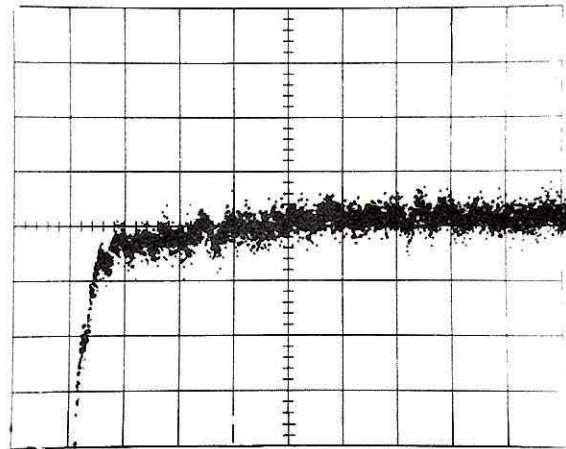

Fig. 7-11. Response to 284 Step Signal at 2% per division.
f. Being careful not to move the CH 1 VOLTS/DIV red CAL control, change the VOLTS/DIV control to 5 mV (2% per division) and center the top of the pulse on a graticule line (see Fig. 7-11).